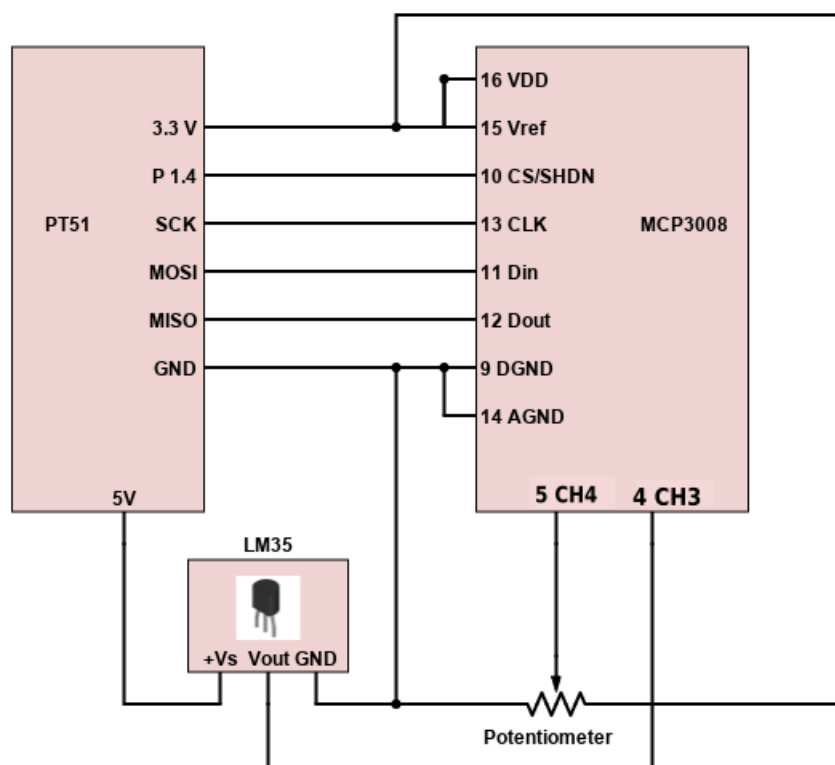

Figure 2: Pt51 interfacing with ADC and temperature sensor.
- iii) Once the ADC setup is verified using the potential divider circuit, it can be used for sensing and displaying the temperature in $^{\circ}\text{C}$. Connect the sensor output to CH3 of the ADC as shown in Fig. 2. This setup measures the voltage output from the sensor and displays the measured room temperature on the LCD. The output provided by the sensor is $10\text{mV}/^{\circ}\text{C}$. Uncomment and update the relevant sections in `main.c`, compile the code and run it on the Pt51 kit. The room temperature will be displayed on the second row of the LCD as shown. Verify that this value matches approximately your room temperature. The first row will continue to display the voltage corresponding to the output of the potential divider circuit.